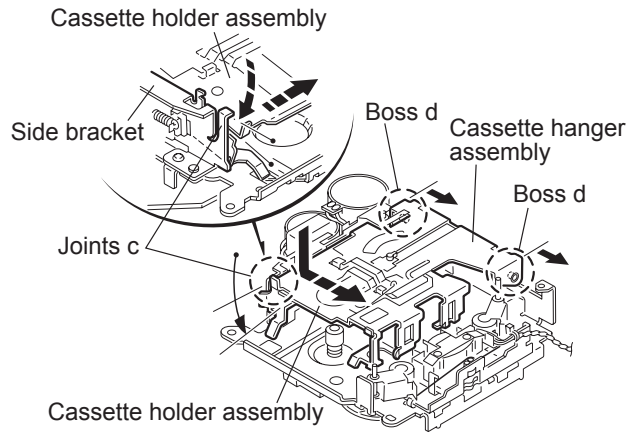

Fig.4
- (1) Remove the E-washer attaching the load arm.
- (2) Move the load arm in the direction of the arrow and release the joint **b** on the cassette catch.
3.3.3 Removing the cassette hanger assembly / cassette holder (See Fig.4 to 7)